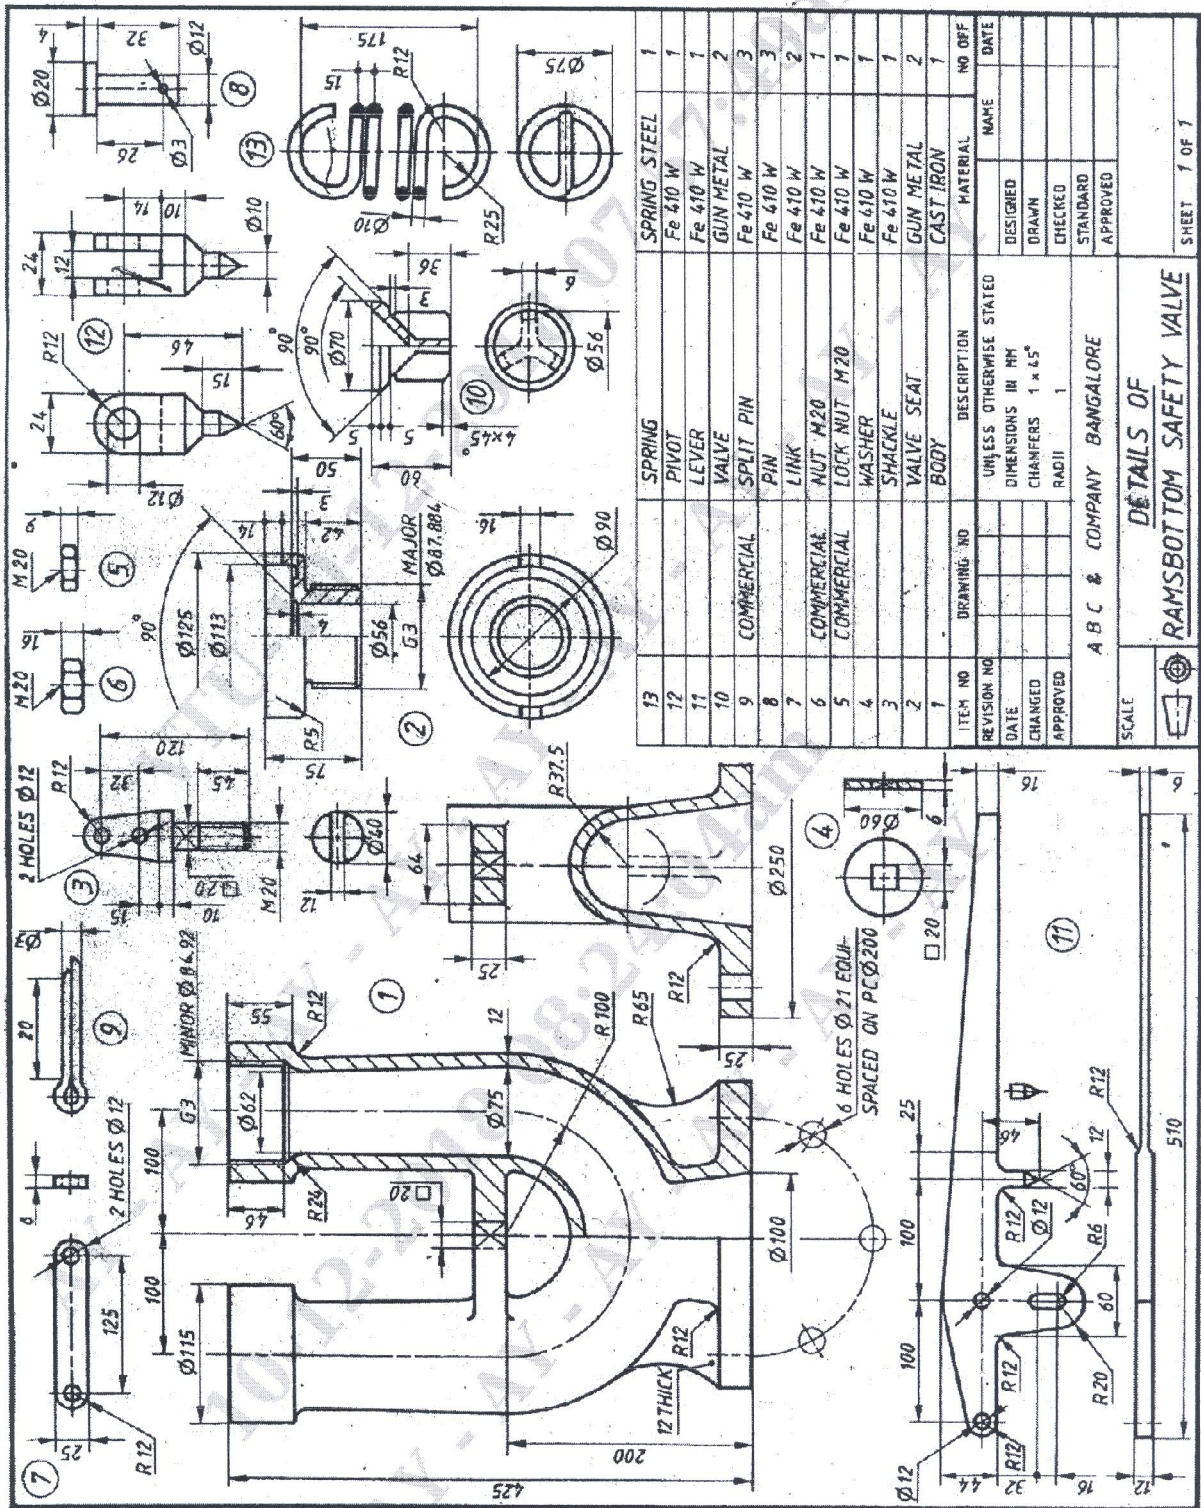

Figure 2: Details of Rams Bottom Safety Valve
- Q.No.6** Figure 2 shows the part drawing of a "RAMS BOTTOM SAFETY VALVE". Assemble parts and show the following views.